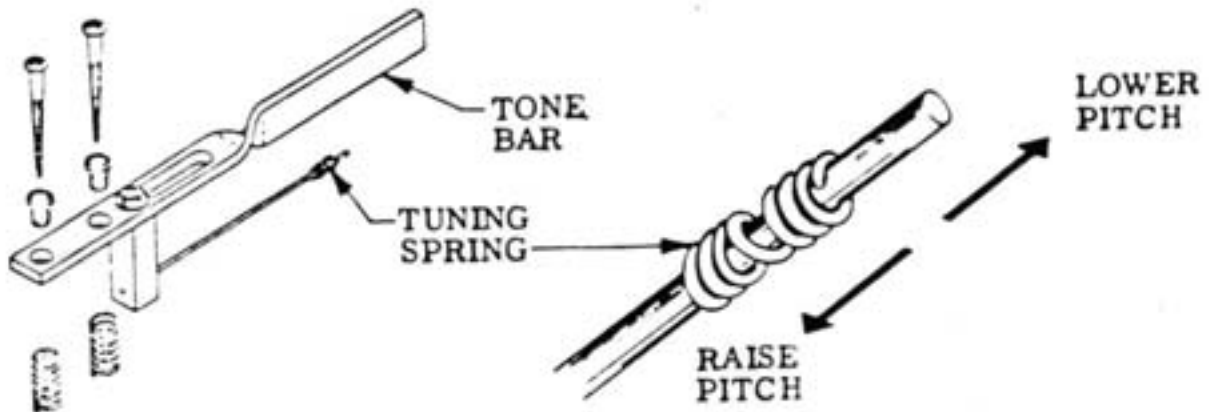

Figure 7
3. In an attempt to further improve the tone quality and at the same time to reduce weight, we came up with the current Tone Bar design, which we call the "twisted steel bar" (See Figure 7). (Patent No. 3,644,656)
In our original design, the "Tine" (bottom leg of the tuning fork) consisted of a length of piano wire .075 in diameter (Figure 8). Fine tuning was accomplished by means of a slideable length of coil spring which was crimped to produce a friction fit (Figure 7).